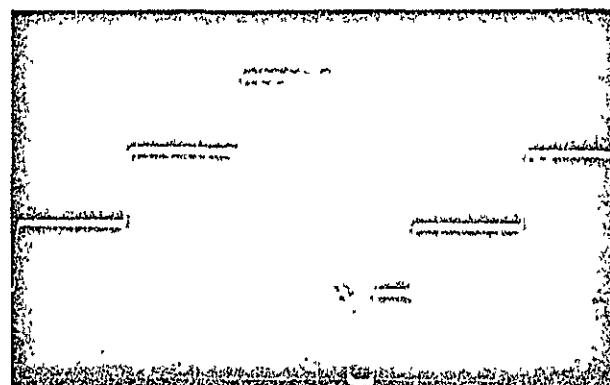

Figure 3-2. SPLITTER V/A INPUT 3-step test signal with no interleaved audio
3. Monitor the signal at the front panel SPLITTER V/A INPUT test jacks. The level should be 1.0 V pp (refer to Figures 3-2, 3-3 and 3-4). Observe the waveform at the SPLITTER V/A INPUT test jacks; note whether a PAM (Interleaved) pulse is present in the waveform. One of the three conditions shown in Figures 3-2, 3-3 or 3-4 should exist.
3.3.2.2.1 Splitter V/A Input, No Interleaved Audio (Refer to Figure 3-2)